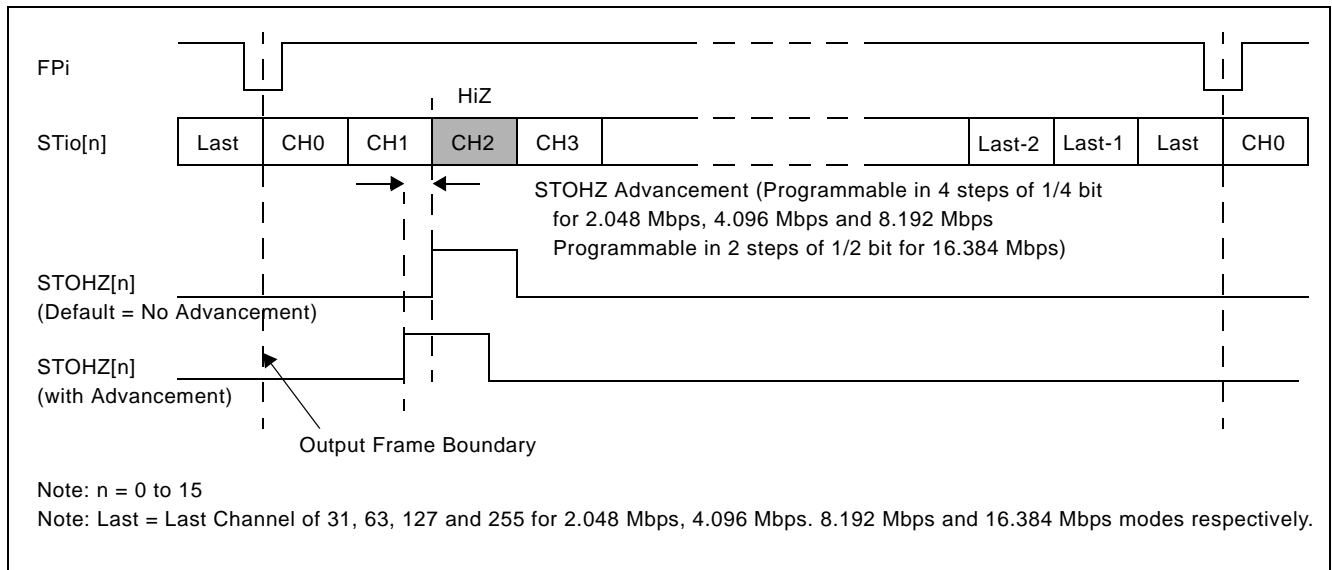

Figure 16 - Channel Switching External High Impedance Control Timing
There are 16 external high impedance control signals, STOHZ0 - 15, that are used to control the external drivers for per-channel high impedance operations. Only the first sixteen ST-BUS/GCI-Bus (STio0 - 15) outputs are provided with corresponding STOHZ signals. The STOHZ outputs deliver the appropriate number of control timeslot channels based on the output stream data rate. Each control timeslot lasts for one channel time. When the ODE pin is high and the OSB (bit 2) of the Control Register (CR) is also high, STOHZ0 - 15 are enabled. When the ODE pin, OSB (bit 2) of the Control Register (CR) or the RESET pin is low, STOHZ0 - 15 are driven high, together with all the ST-BUS/GCI-Bus outputs being tristated. Under normal operation, the corresponding STOHZ outputs of any unused ST-BUS/GCI-Bus channel (high impedance) are driven high. Refer to Figure 16 on page 26 for a diagrammatical explanation.